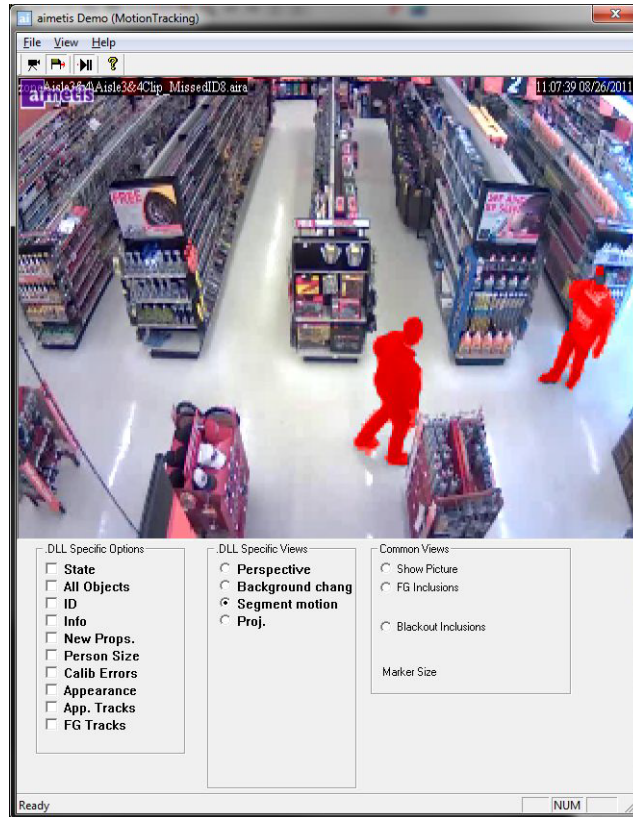

Figure 23. Motion Tracking Interface (trackerapp)
4. The **Aimetis Demo (Motion Tracking)** dialog box opens (Figure 23 on page 174). A live video is displayed in the window.